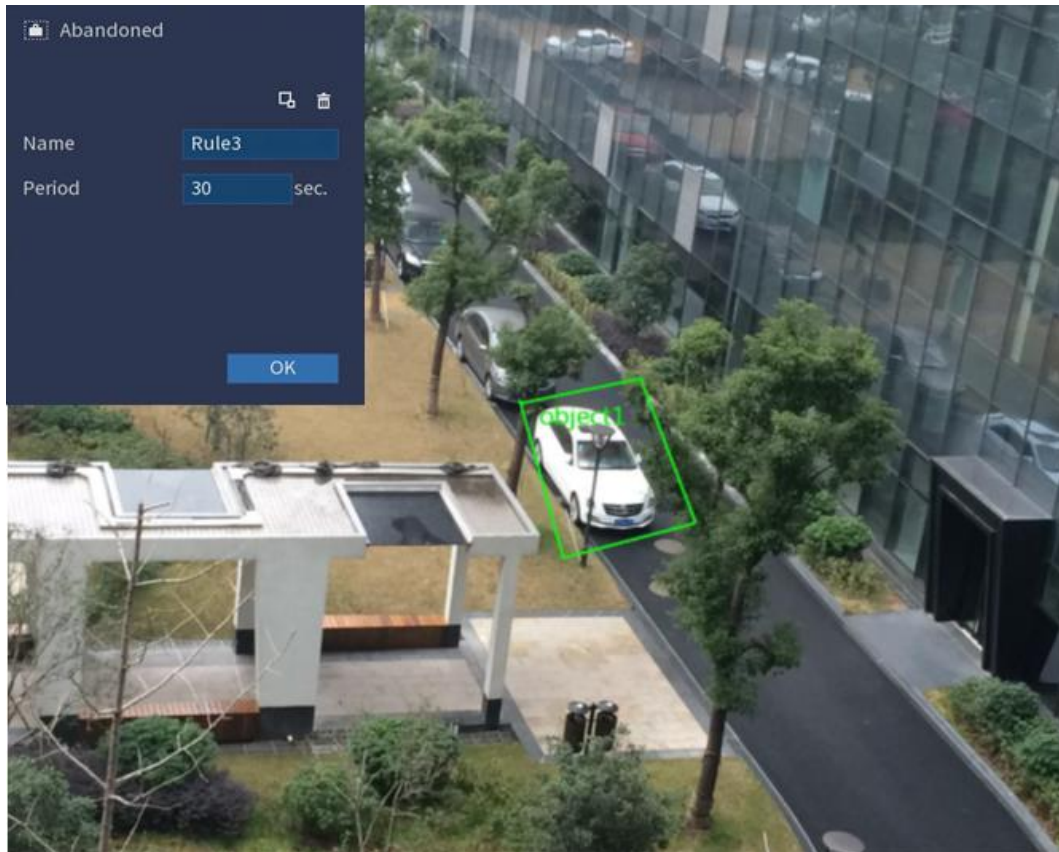

Figure 5-100
- 2) Click .The monitoring screen to configure the abandoned rules is displayed. See Figure 5-100.